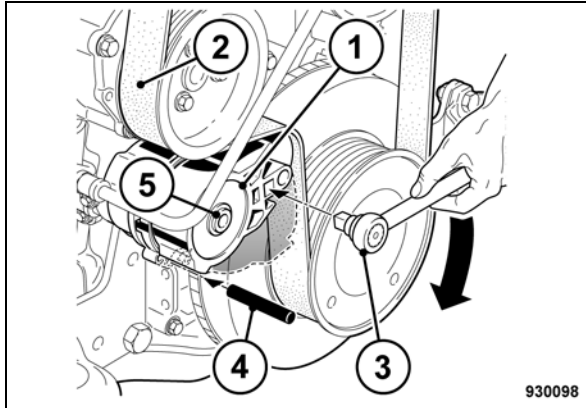

Fig. 180
- Press idler pulley (1) (Fig. 180) in direction of arrow using a socket wrench (3), until the locking pin (4) engages in the assembly bore.
- Take the ribbed V-belt (2) first off the smallest pulley.
- Unscrew fastening screws (5) and take off idler pulley.